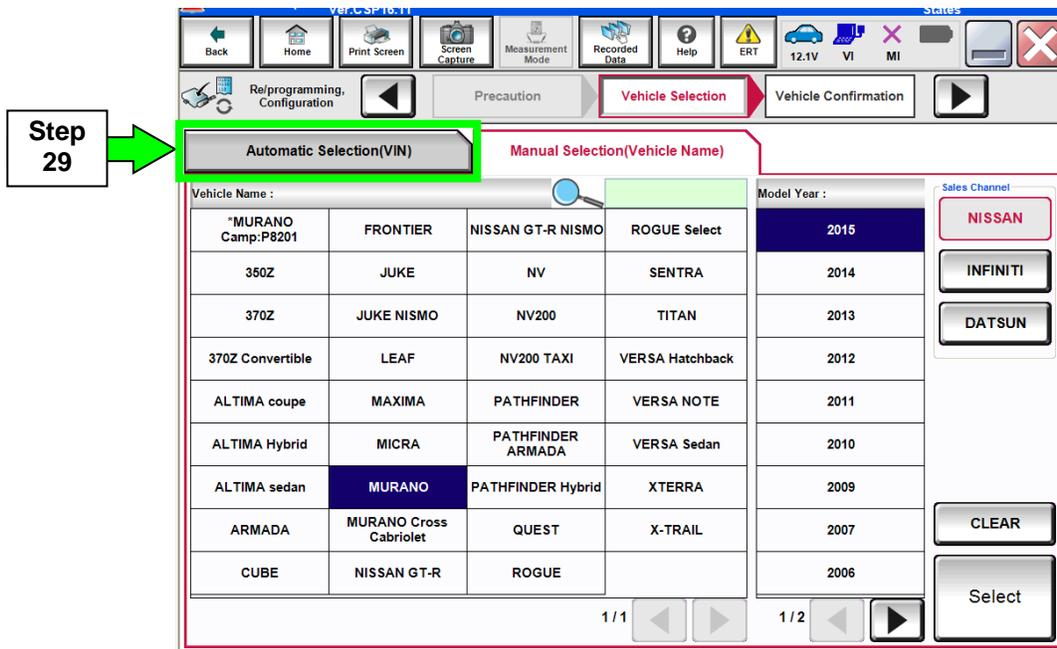

Figure 24
29. If the screen in Figure 24 appears, select **Automatic Selection(VIN)**.